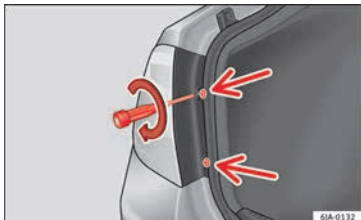

Fig. 103 Fit the tail light unit.
- Take the screwdriver or a Torx 20 key (T20) from the vehicle tool kit and tighten (turning clockwise » Fig. 103) the two retaining screws that secure the front of the light.